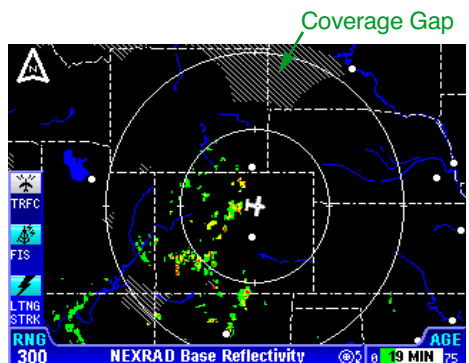

Figure 2-2
3. Due to NEXRAD site location limitations, terrestrial blockages and outages, NEXRAD coverage gaps exist. Coverage gaps are displayed as a cross hatched pattern as shown in Figure 2-2. Lack of reflectivity in a coverage gap area should not be construed as a lack of precipitation. Coverage gaps are portrayed identically on either VDL or XM.